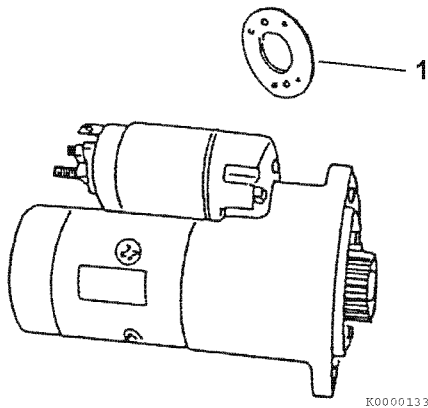

Figure 11-34
5. If the measured L dimension is outside the standard range, adjust the dust covers to obtain the standard range. Dust covers **(Figure 11-34, (1))** are available in 0.020 in. (0.5 mm) and 0.031 in. (0.8 mm) thicknesses.